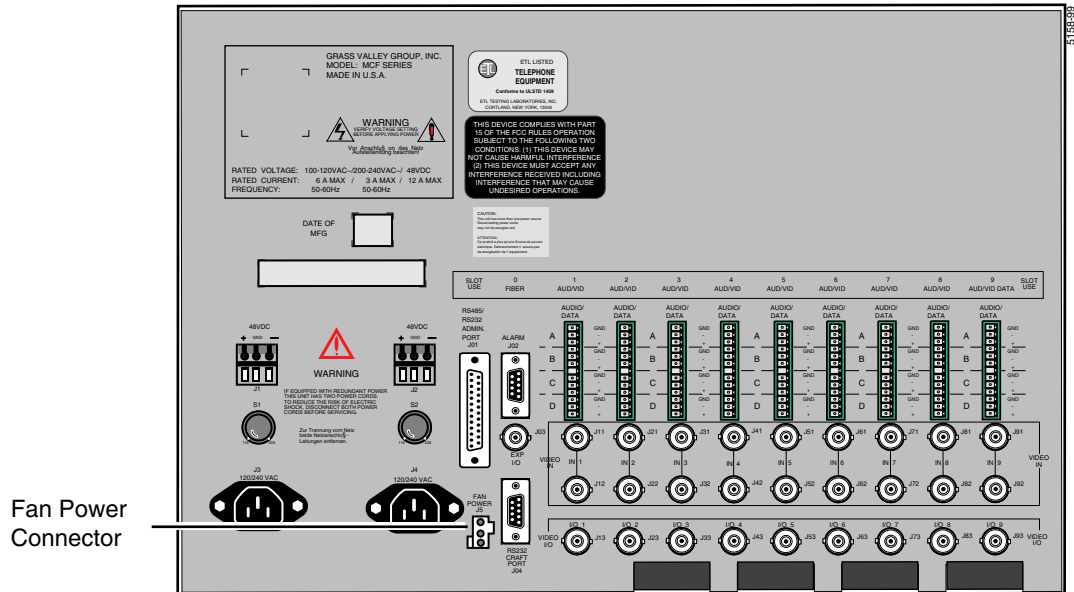

Figure 2-14. Backplane Fan Power Connector for 6 RU Frame
2. Connect the other end of the power cable to the power connector on the fan assembly. Note that the connectors are keyed to prevent mismatching. See Figure 2-14 for connector location.